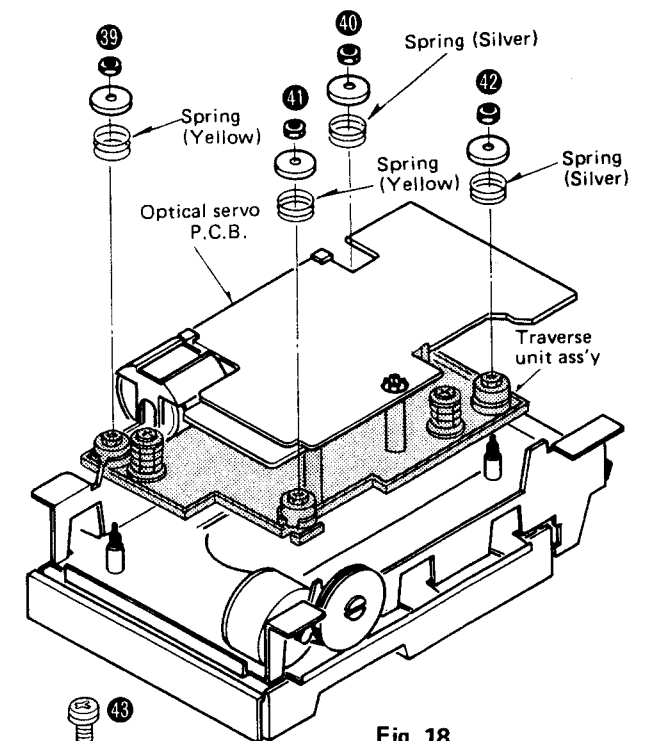

Fig. 18
4. Turn over the traverse unit and remove the nuts [Fig. 18 : 39 ~ 42], then the traverse unit ass'y can be removed.